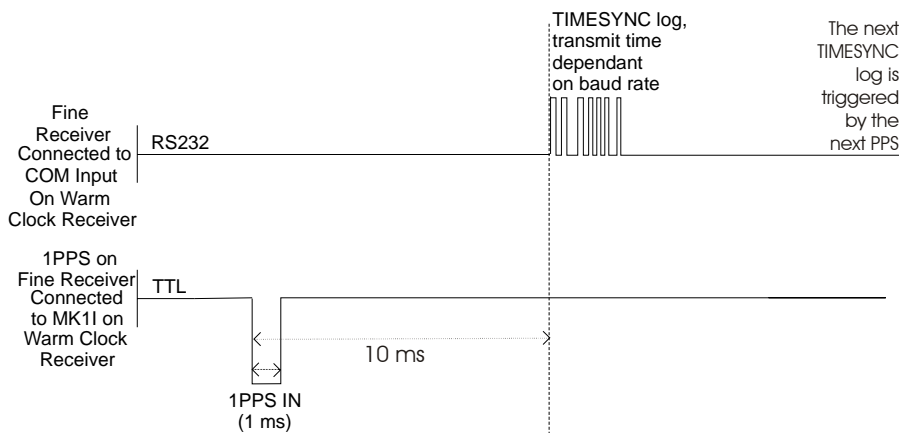

Figure 1: 1PPS Alignment
Figure 1 on *Page 51* shows the 1PPS alignment between a Fine and a Cold Clock receiver. See also the **TIMESYNC** log on *Page 517* and the *Transfer Time Between Receivers* section in the *OEMV Family Installation and Operation User Manual*.
- b. It is presumed that the TIMESYNC log, see *Page 517*, was issued by a Primary GPS receiver within 1000 ms, but not less than 800 ms, of the last 1PPS event, see *Figure 1, 1PPS Alignment on Page 51*. Refer also to the *Transfer Time Between Receivers* section in the *OEMV Family Installation and Operation User Manual*.